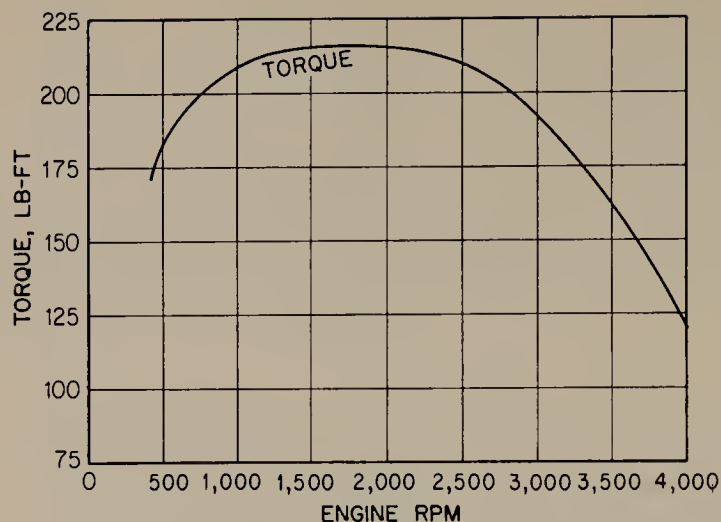
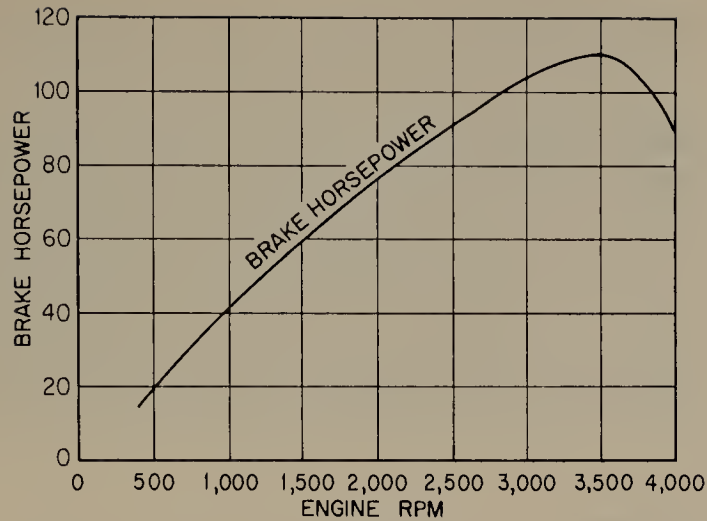

FIGURE 5.11 Torque curve of an engine, showing the relationship between torque and speed.
FIGURE 5.12 Curve showing the relationship between bhp and engine speed.
5.17 Brake Horsepower vs. Torque. The torque that an engine can develop changes with engine speed (see Fig. 5.11). During inter-
But, at higher speed, volumetric efficiency drops off (there is not enough time for the cylinders to become filled up with air-fuel mixture). Since there is less air-fuel mixture to burn, the combustion pressures will not go so high. There will be less push on the pistons, and thus engine torque will be lower. Note in the graph (Fig. 5.11) how the torque drops off as engine speed increases.
The bhp curve of an engine is considerably different from the torque curve. Figure 5.12 is the bhp of the same engine for which the torque curve is shown in Fig. 5.11. It starts low at low speed and increases steadily with speed until a high engine speed is reached. Then, as still higher engine speeds are attained, bhp drops off.